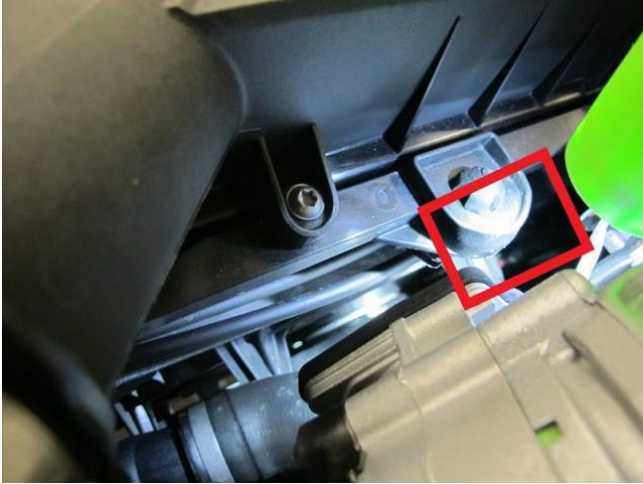

Figure 6
4) Referring to Figure 6 (Rear of radiator cowl) - Whilst the engine running - Visually check the cooling fan is spinning / operating